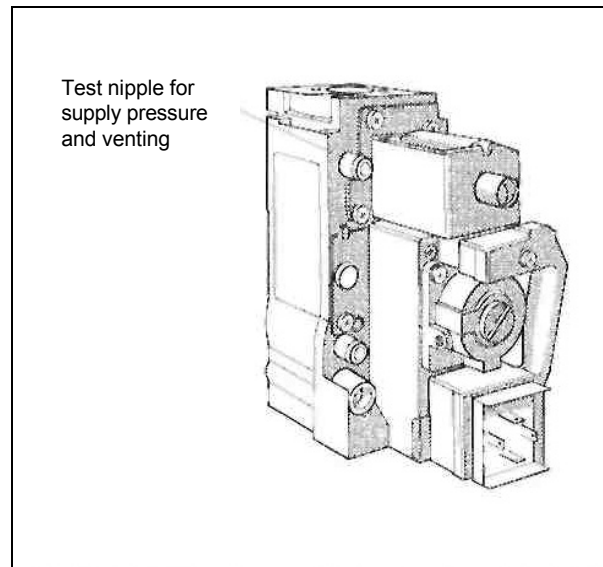

Fig. 12: Test nipple for supply pressure and venting
- Release the locking screw of the test nipple for supply pressure and venting (Fig. 12) two full turns, and push the test hose of the U-tube pressure gauge onto the nipple.